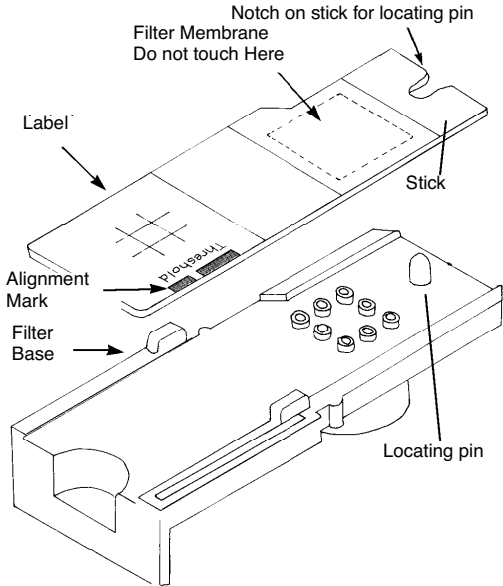

Figure 3-11: Stick on a Filter Base
- 2) Place the stick flat on the filter base, label and membrane, facing up (Figure 3-11). Gently push the stick down and towards the locating pin, as far as it can go.